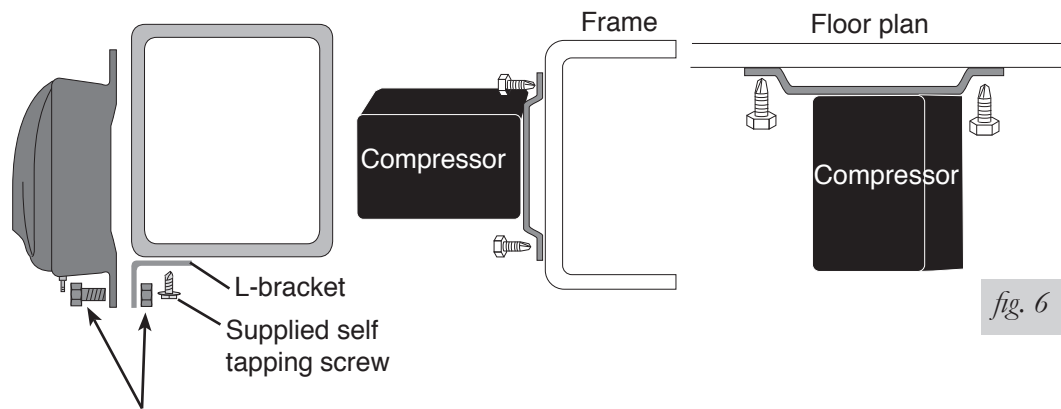

fig. 6
- c. For box frames: In some cases the frame section will not be wide enough to mount the compressor legs flat to the rail. Refer to Fig. 6 in this situation.